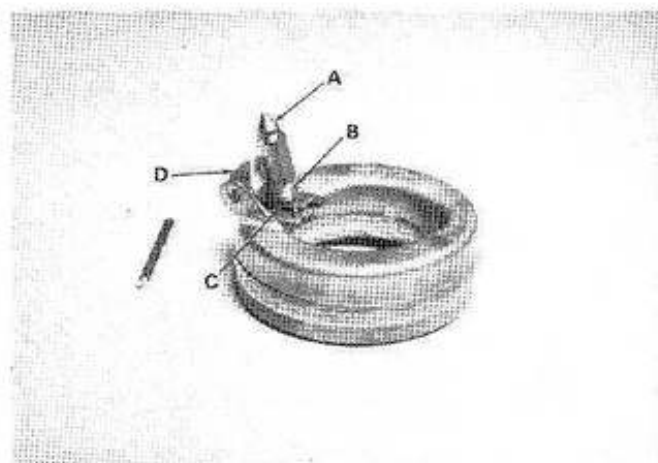

Figure 97. Needle and Seat Inspection.
installation into the carburetor. (See Figure 97.)
- Make certain, if the spring (B) has a fastener, that it is connected to tab (C) on the float. (See Figure 97.)
- c. Adjust the clearance between the float and the casting rim to $5/32$ of an inch (illustrated by a $5/32$ " drill) by bending tab (C). (See Figure 97.) The float travel setting (D) is $3/16$ ". Tab (D) must be bent to limit float travel.